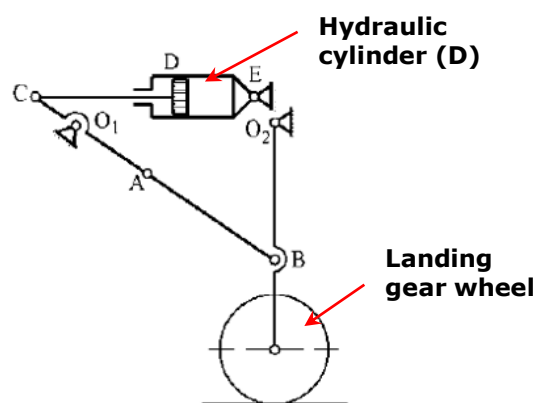

Figure Q2-1
- (b) Figure Q2-1 shows a schematic of a retractable landing gear of aircraft. Its retraction mechanism is a 4 bar linkage (O_1ABO_2) actuated by a hydraulic cylinder D pivoted at E.